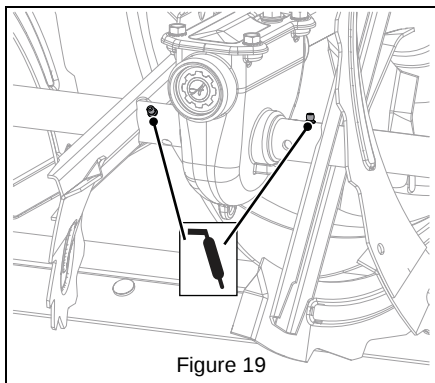

Figure 19
2. Apply grease at the grease zerks. See Figure 19.